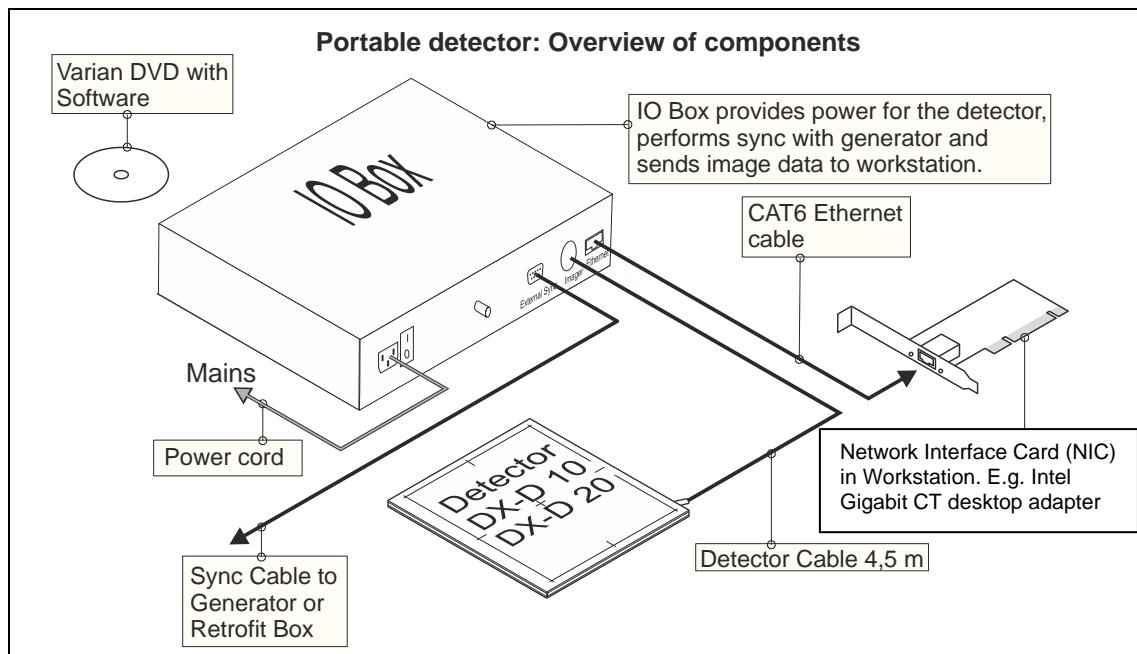

Figure 3
**Portable means: Can be removed from the Bucky by the user, e.g. for free exposure. Range depends on cable length. See Figure 3.